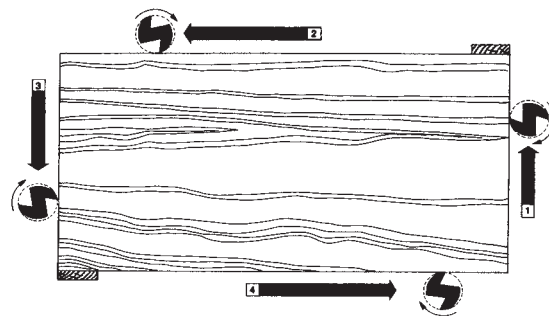

Figure 37-14: Routing Work Around Outside Edges
- When routing outside edges, guide the router around the work in a counterclockwise direction (Figure 37-14). Splinters left at corners by routing **across** the grain will be removed by the next pass **with** the grain.